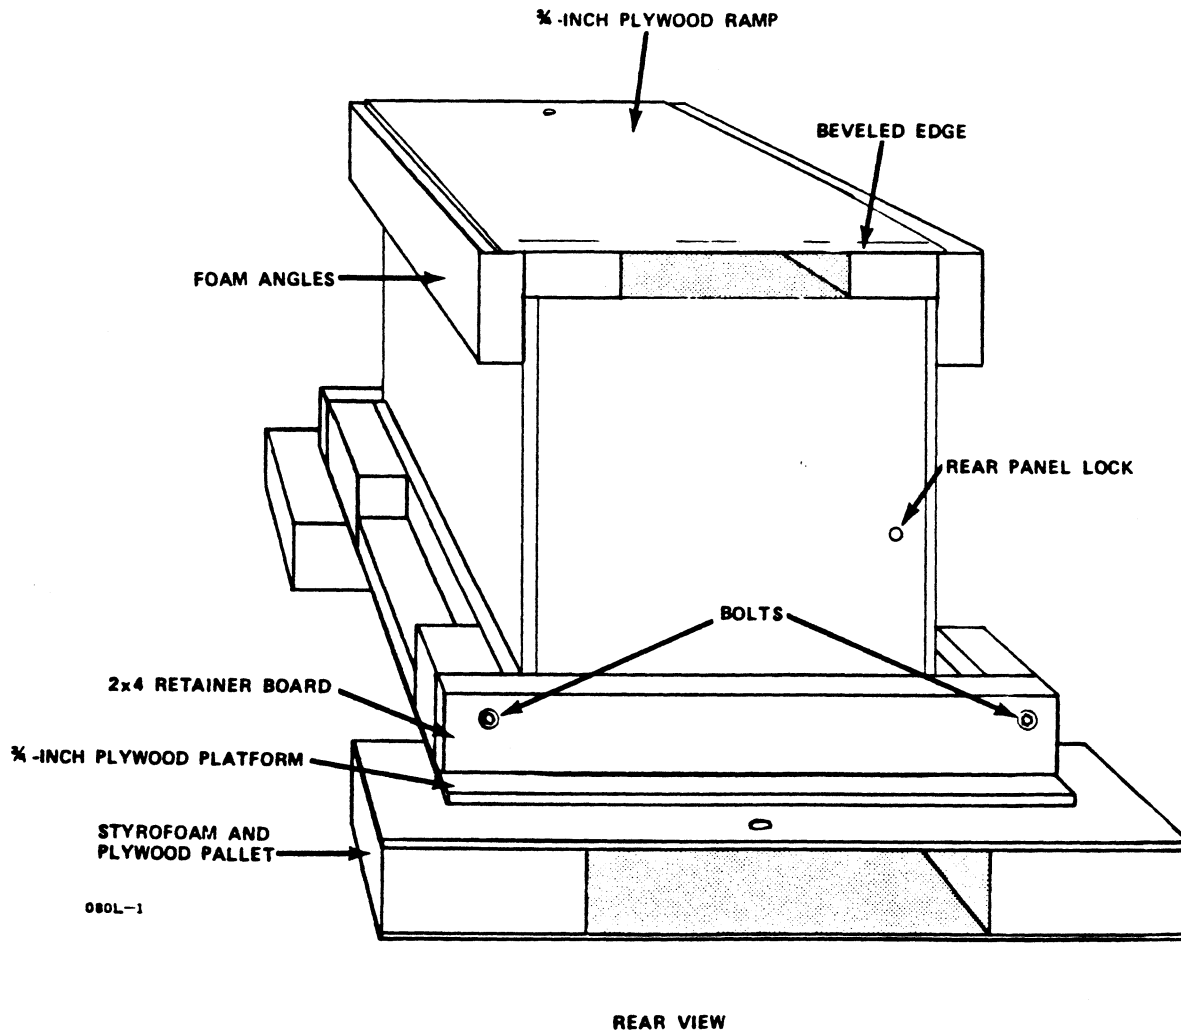

Figure 3. MARK 5/9 Lowboy Packaging
3. Unbolt the removable 2x4 retainer board (see Figure 3). One of the bolts will be used to secure the ramp (step 5).